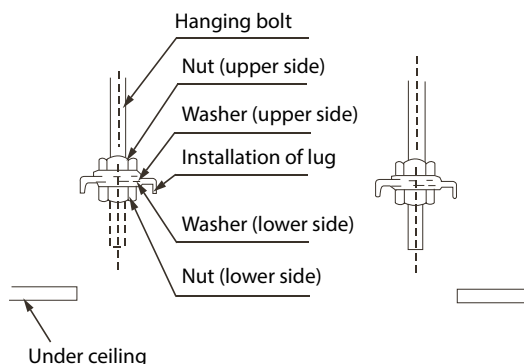

Figure 3.6
1. Adjust the location of the nut, and determine the space between the washer (lower side) and the ceiling according to the actual construction situation. Refer to Figure 3.6.